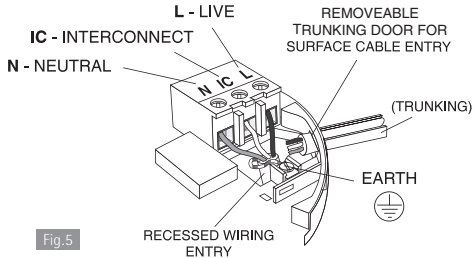

Fig.5
**IC: Interconnect** - see figures 5 and 6 and further information in Section 2.7.
4. If the mains wires are recessed, bring the wires through the rear hole in the mounting plate as shown in Figure 5.
- (a) position the mounting plate so the cable trunking is as shown in Figure 5.